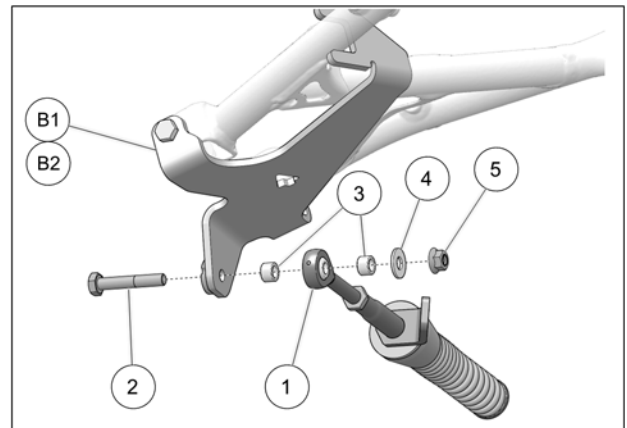

Fig. 10
- Attach stabilizing rod (1) to anchor bracket (B1-B2), using bolt (2), spacer bushings (3), washer (4), and nut (5). Torque to 70 N•m [52 lb•ft]. See Fig. 10